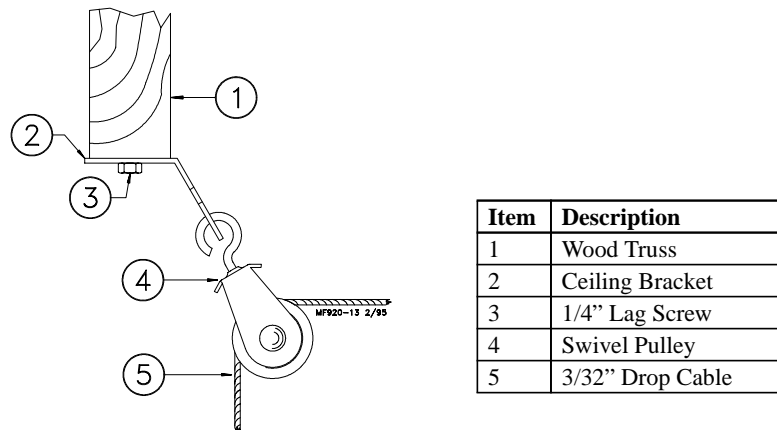

Figure 29. Pulley Installation
- After securing the Ceiling Hook to the truss, slide the hook of a Swivel Pulley into the slot, as shown in Figure 29.